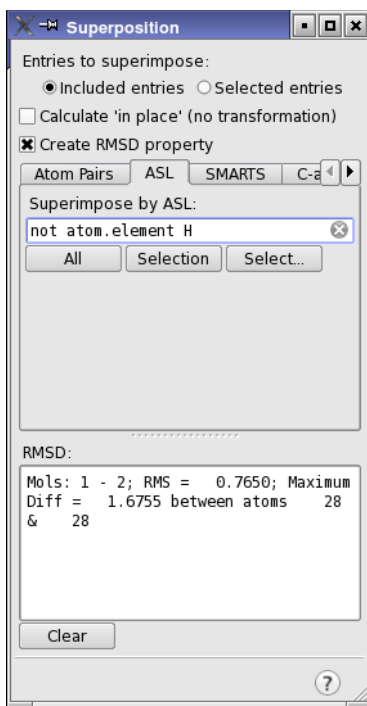

Figure 3.5. The Superposition panel.
7. In the Superimpose by ASL text box, enter the expression `not atom.element H` and press RETURN. (see Figure 3.5).